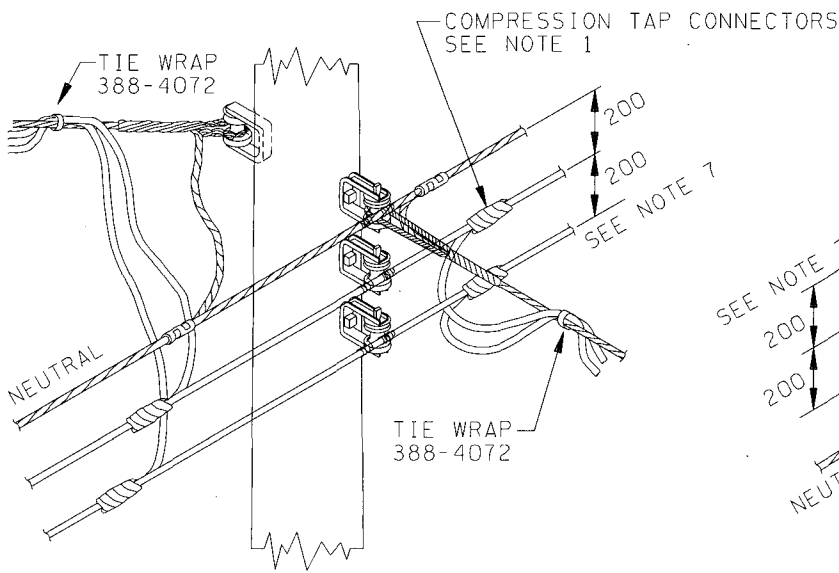

FIG. 1
3. Fig. 1 shows single phase service. Three phase service connections are similar.